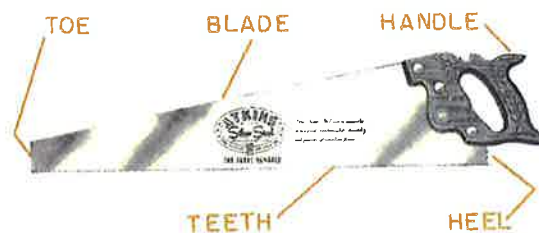
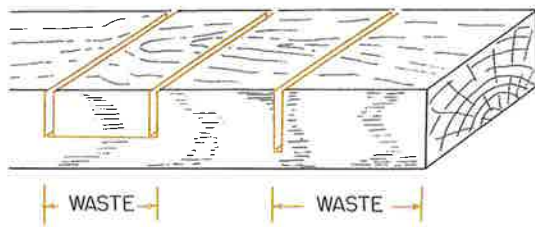
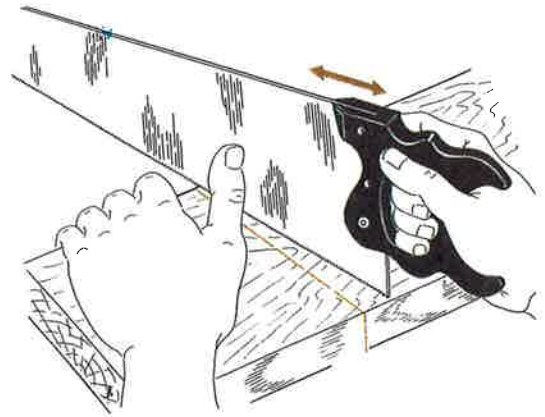

Fig. 8-1. A panel handsaw.
Fig. 8-12. Waste portions of a board.
Fig. 8-13. Starting the cut across the grain of the wood.
Woodworkers' saws are the crosscut saw, the rip saw, the backsaw, and the dovetail saw. Figure 8-1 shows a typical panel hand-saw with the parts identified.
3. Place the heel (Fig. 8-1) of the cross-cut saw near the cutting line on the *waste* side of the wood (Fig. 8-12). Pull it, while you guide it with the left thumb (Fig. 8-13).